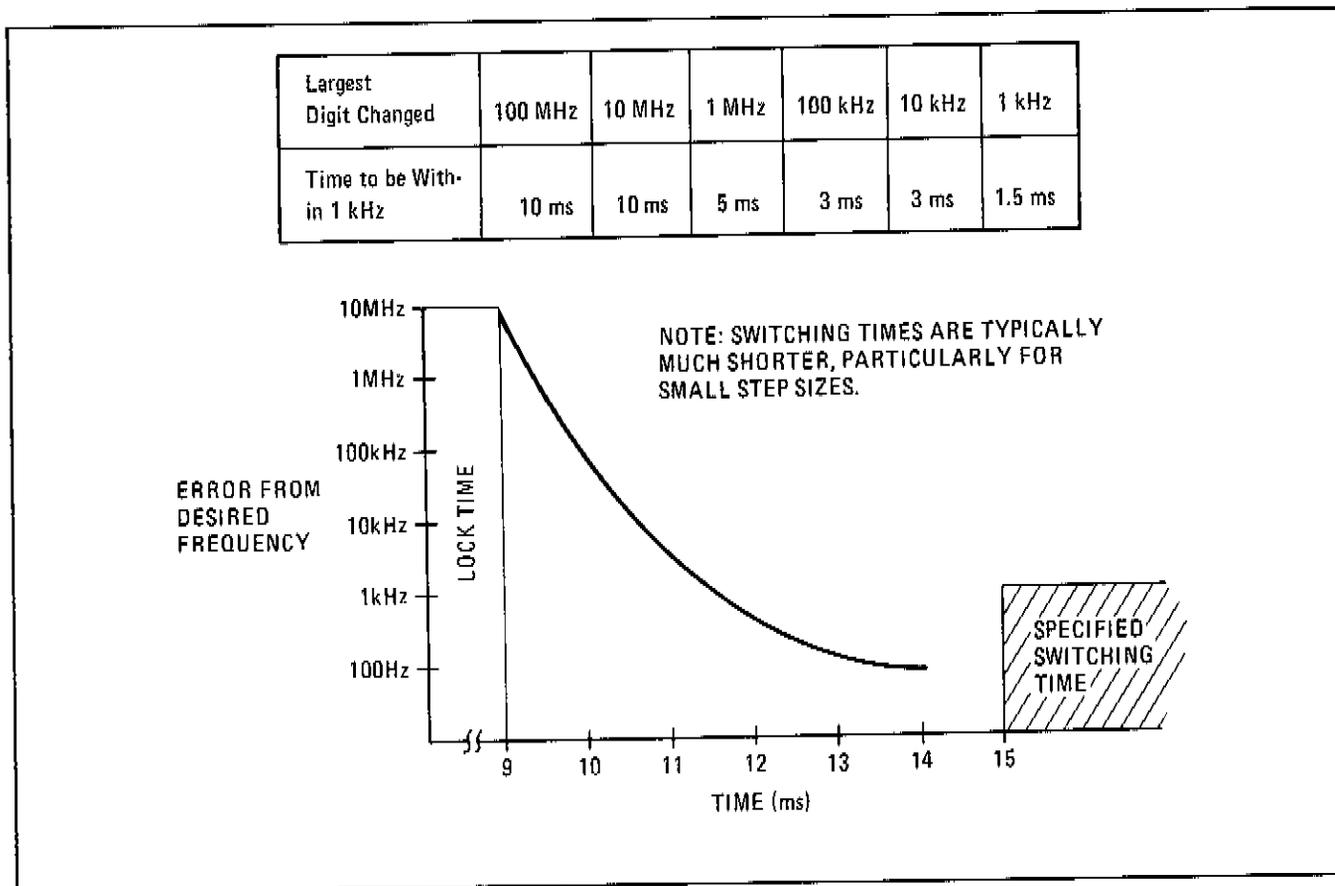

Figure 3-5. Typical Frequency Switching Time for the 8671A Synthesizer Showing Worst Case Lock and Settling Times
a. Frequency Switching. The time it takes to switch from one frequency to the next depends on the largest frequency digit being changed. Generally, the smaller the digit being changed the shorter the switching time. Typical worst case frequency lock and setting times are shown in Figure 3-5. If FM is on during frequency change, switching time will increase.